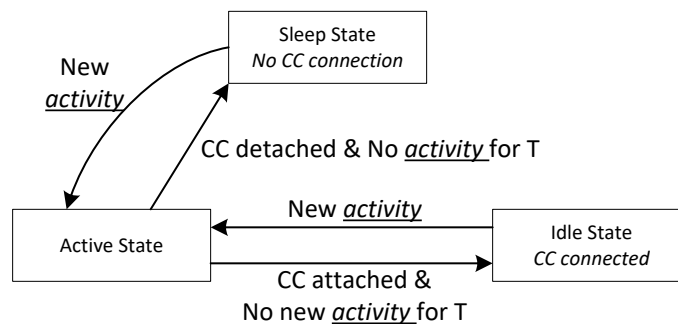

图 8-33. Flow Diagram for Power States
(1) See 表 8-5 to see the exact meaning of I²C Address Index.
(2) See 表 8-2 for how to configure a given ADCINx decoded value.
The TPS25751 can operate in one of three different power states: Active, Idle, or Sleep. The Modern Standby mode is a special case of the Idle mode. The functionality available in each state is summarized in 表 8-7. The device automatically transitions between the three power states based on the circuits that are active and required. See 图 8-33. In the Sleep state, the TPS25751 detects a Type-C connection. Transitioning between the Active mode to Idle mode requires a period of time (T) without any of the following activity: